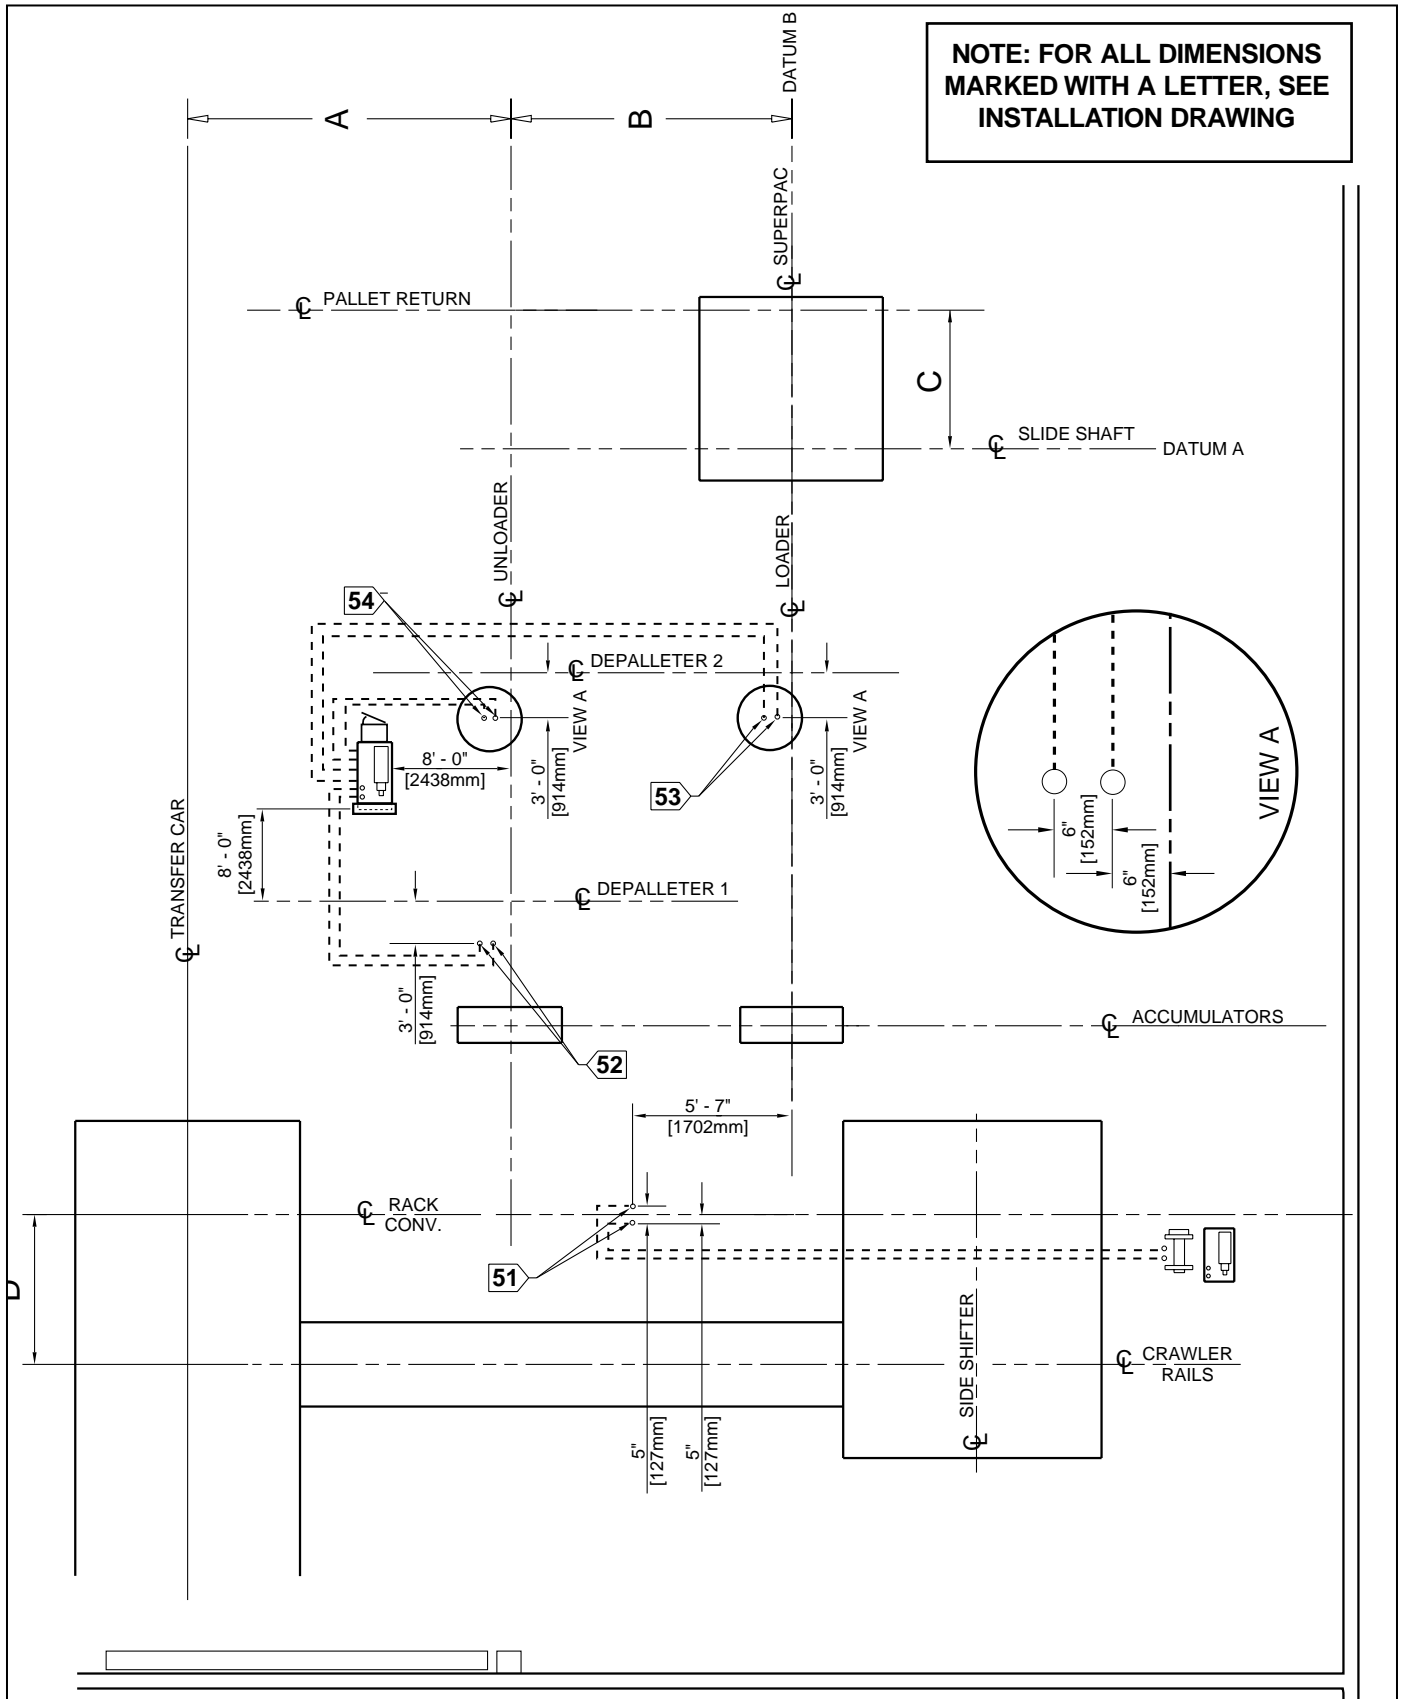

Figure 2.6 MS-12 BESSER-MATIC HYDRAULIC INSTALLATION (ref. installation print sheet 2).
- a. All stub-up locations are shown in figure 2.6 and on the BESSER-MATIC installation prints sheet 2.
2. Numbers 51 to 54 below refer to numbers in figures 2.6 and in installation prints sheet 2